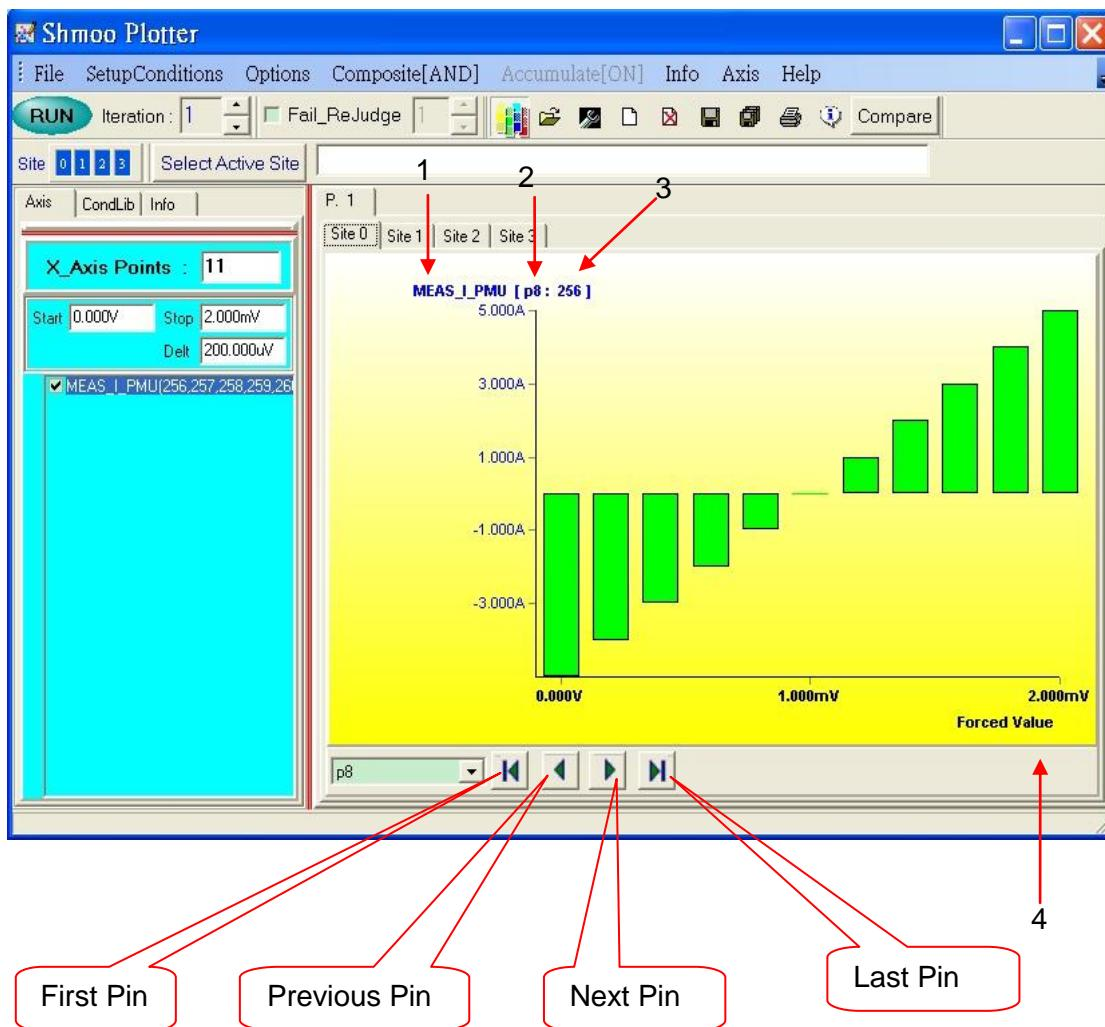

Figure 11-18 DC_Measure Shmoo (1)
- (1) Titled with the test condition (1 in Figure 11-188), PinName (2 in Figure 11-18), and ATE channel (3 in Figure 11-18).
- (2) X axis is the forced values.
- (3) Y axis is the measured values.
- (4) If select more than one pin, only one pin displayed in the plot window. Using the buttons and the pin selection combo on the bottom panel (4 in Figure 11-18) to change the displayed pin.